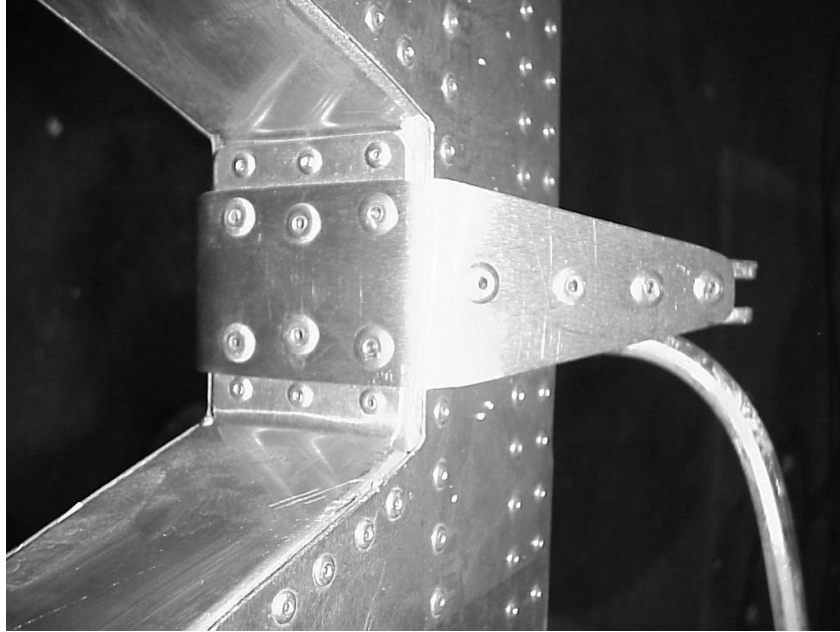

Figure 3.4.8
- 17) Remove the Elevator Center Doubler and position the rib where the rib location mark was made. Back Drill #40 holes through the Elevator Center Doubler into the rib. Repeat for the other rib. See figure 3.4.8 for rib placement.
- 24) Drill all the new holes in the Elevator Center Doubler and the new center ribs to #30. Bolt the two Elev/Rud Horns (EL0301) to the center of the Elevator. Remove parts and deburr. Reassemble. Figure 3.4.8. Leave the center ribs and center gussets (EL0451) cleco'd in place.
- 26) Locate strap material EL0452. Trim to shape, as in Fig.3.4.8. Slide this UNDER the tabs of the EL0450's, and back drill the holes. Add two more holes between the existing ones. Drill out to #11.